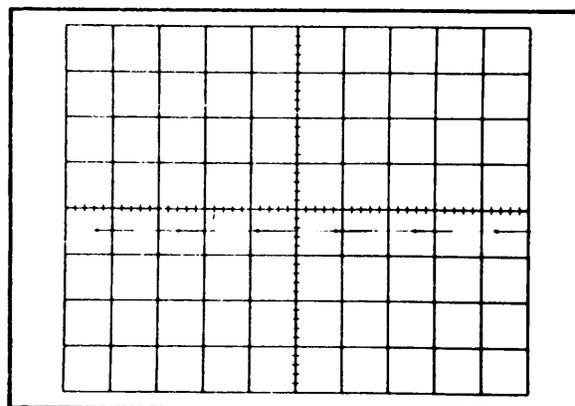

Fig. 5-7. Typical CRT display showing correct intensity modulation (time/division, 10 milliseconds).
e. Check—The display for intensified dots (see Fig. 5-7). It may be necessary to reduce the INTENSITY setting slightly to see the dots.